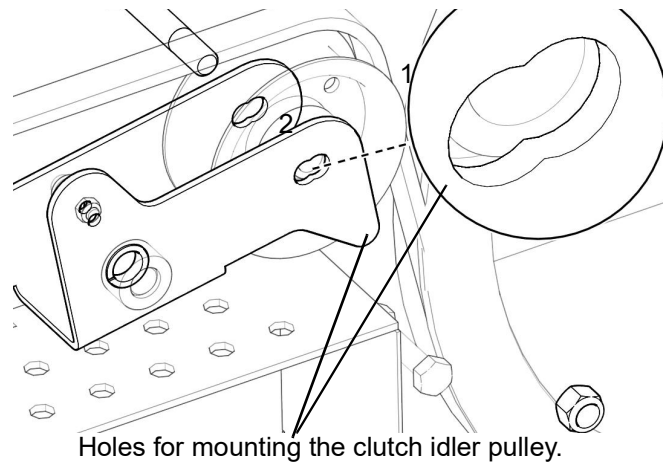

FIG. 1-19
4. Install the exhaust deflector. See Fig. 1-19